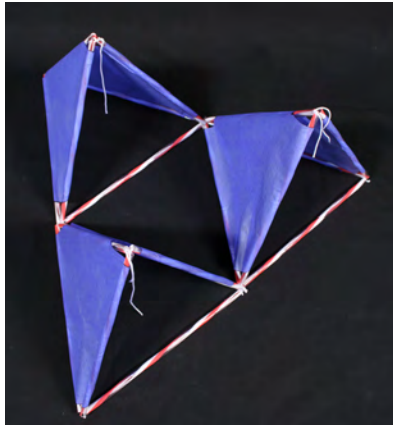

Fig. 15 Three tetrahedrons in the form of one large triangle
6. Now your tetrahedron should look like this: (See picture below, figure 15).